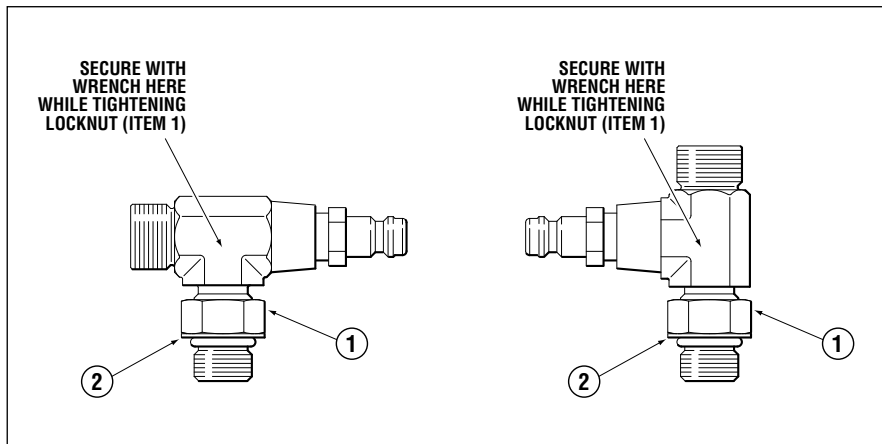

Figure 24.
1. Back off lock nut (item 1, figure 24), counter-clockwise, until it stops.
2. Thread fitting into cylinder body until fitting washer (item 2, figure 24) contacts the face of the cylinder port. Tighten hand tight, DO NOT TORQUE FITTING INTO GLAND.
4. While holding fitting with a wrench, tighten the locknut (item 1, figure 24) and torque to 40–43 ft-lb.
Failure to properly tighten the locknut (item 1, figure 24) may lead to loss of steering control. Loss of steering control may result in unpredictable boat behavior, collision with an obstacle and/or ejection from vessel, leading to property damage, personal injury and/or death.